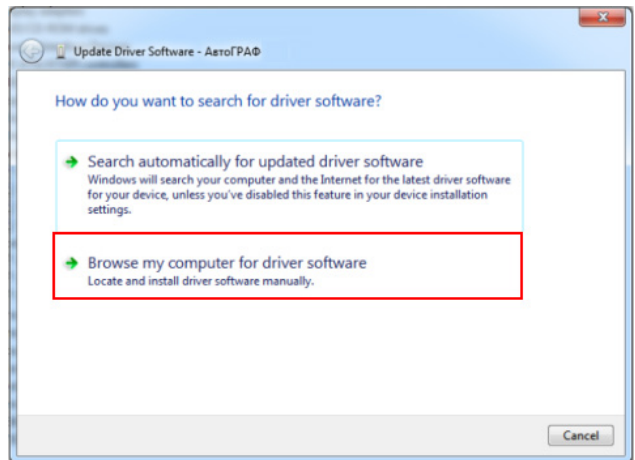

Fig.3. Browse for TKLS-Prog-232 driver.
- launch the driver update wizard and select “Browse my computer for driver software” to search for the drivers manually. Then select the folder where the driver files was extracted (Fig.3);